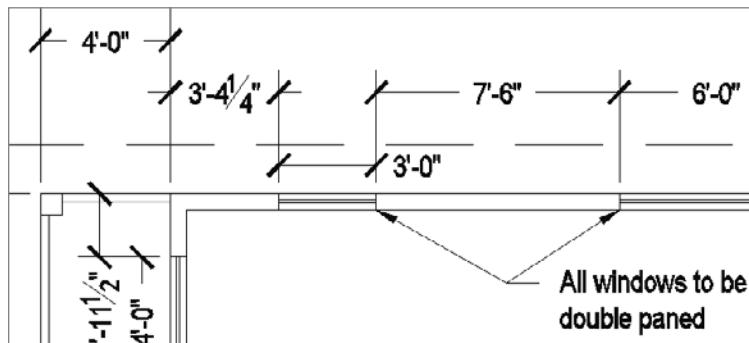

FIGURE 12.57 Moving the window dimension and dimension text with grips
- Press Esc to deselect the dimension (see Figure 12.57).